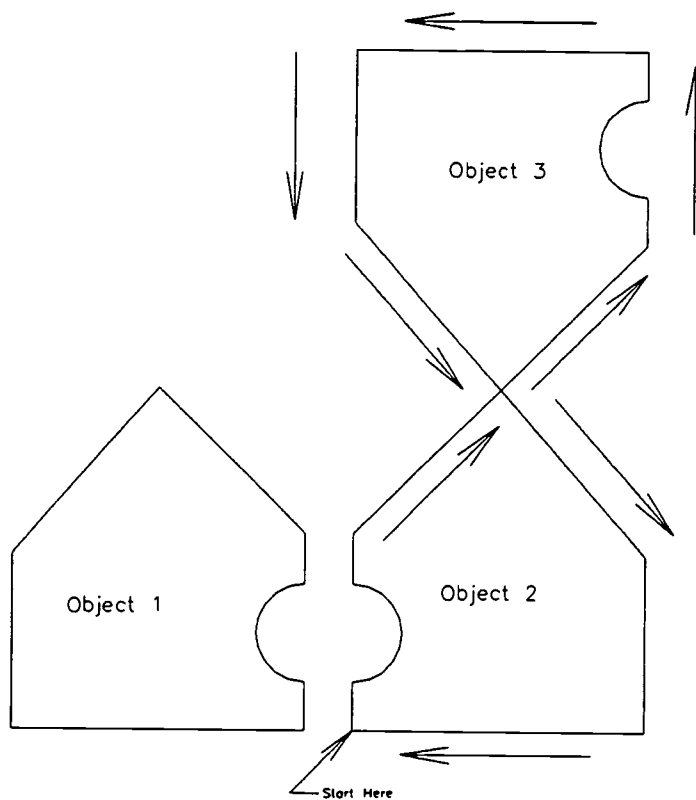

Figure 7
7. Move object 3 back to the peak of object 2 as shown in figure 7. Then,
- Use **Edit >> Order Path >> Prof_Start** and select the appropriate element such that the tool path for object 2 begins at the point shown in figure 7.
- Create the “figure 8” toolpath as shown in figure 7. First, group the elements in object 3 in the required order. Second, **Insert >> After >> element >>** select the appropriate element in object 2. Third, **Edit >> Order Path >> Sequence Move >> Go**.